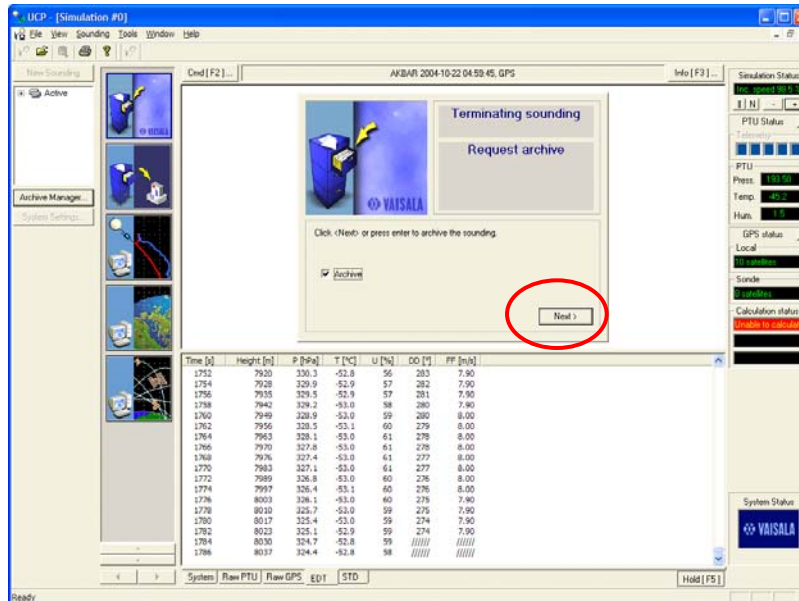

Figure 5
4. Click "Next" if requested for archive (see Figure 5).